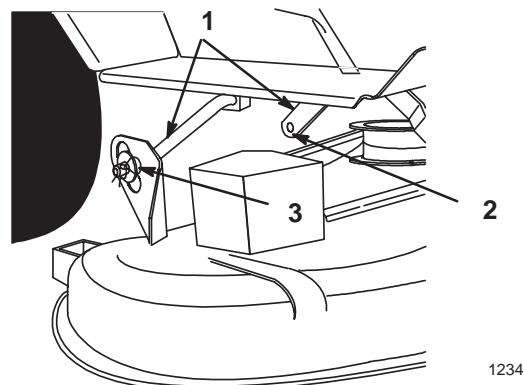

Figure 14
5. Remove hairpin cotter and washer from rear link and remove from attachment lift (Fig. 14).
6. Remove hairpin cottes and washers from rear lift arms (Fig. 14).
7. Slide deck right, off rear lift arms (Fig. 14).